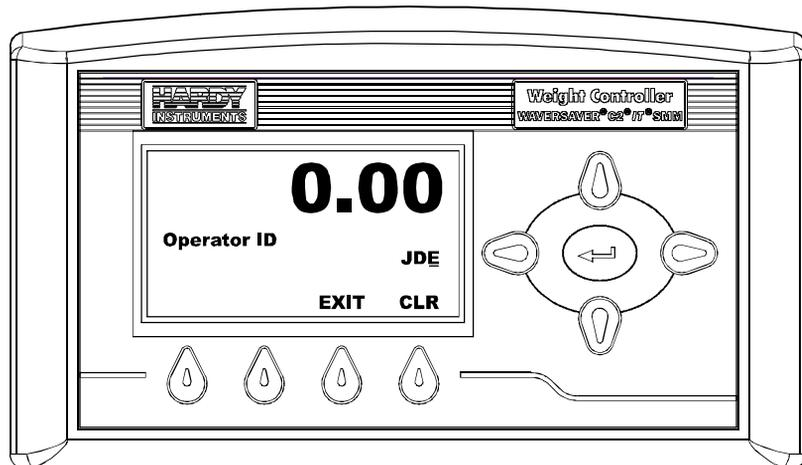

FIG. 89 OPERATOR ID MENU
Step 2. Press the Enter button. The Operator ID Menu appears. (See Fig. 89) The current Operator ID is displayed.
Step 3. Use the Left or Right Arrow buttons to move the cursor. When you have placed the cursor in the location you want, use the up or down arrows to enter the number or letter you want for the current user. (See Fig. 89)